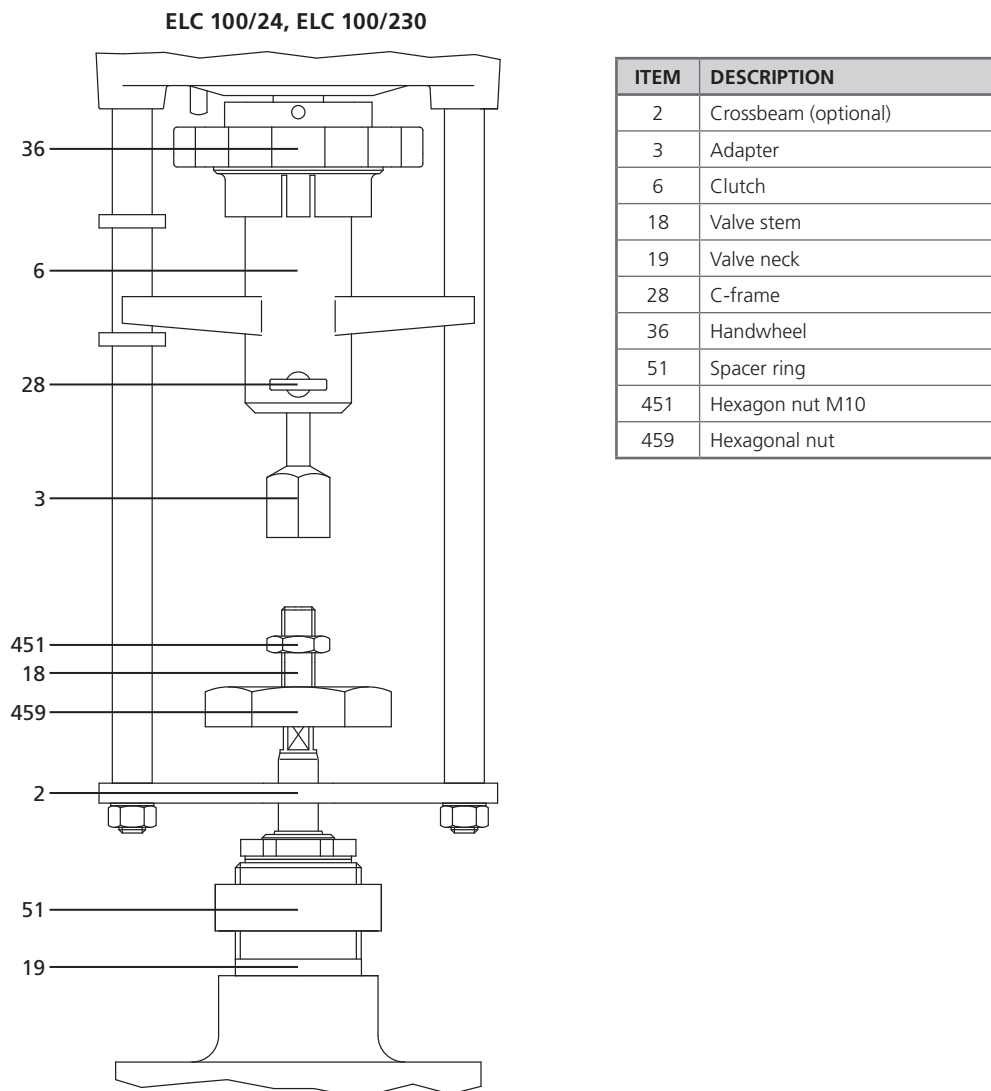

Fig 4.2 Mounting the linear actuator on the valve
- 1 Insert the C-frame (28). See Fig 4.2.
- 2 Pull the adapter (3) off the clutch (6).
- 3 Screw the hexagon locknut M10 (451) spanner width 17 onto the valve stem (18).
- 4 Screw the adapter (3) onto the valve stem (18).
- 5 Fix the valve stem (18) by the hexagon locknut (451), in order to prevent skewing.
- 6 Fit the spacer (51) on the valve neck (19).
- 7 Fit the actuator and crossbeam (2) and hexagon nut (459) on the valve neck (19).
- 8 Insert the C-frame (28) and pull the valve stem upwards (18) until the valve stem locks (18) into the clutch (6).
- 9 Fix the crossbeam (2) using a hexagon nut (459) spanner width 50.